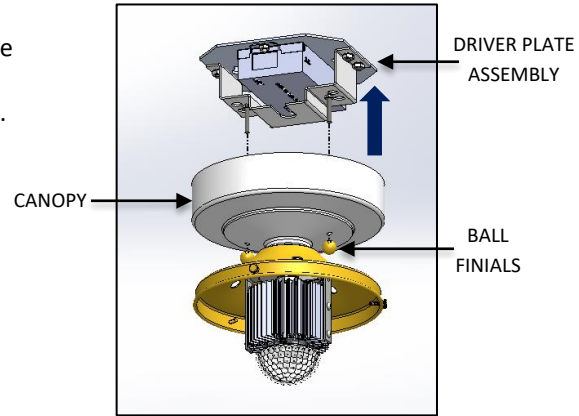

FIG. 5- MOUNTING PLATE DIS-ASSEMBLY
1. Loosen BALL FINIALS on CANOPY and remove the DRIVER PLATE ASSEMBLY from the CANOPY. Be careful not to scratch the finish of the fixture as shown in fig 5.